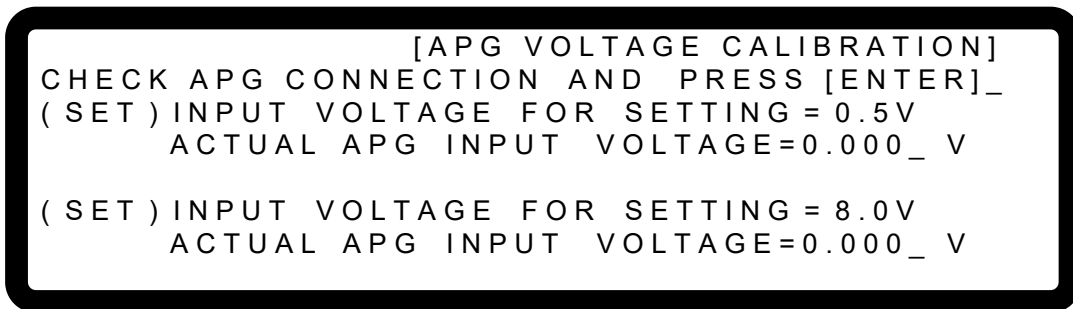

Figure 3-118
2. Press “ENTER” to confirm entering into APG Voltage Calibration options as Figure 3-118 shows.